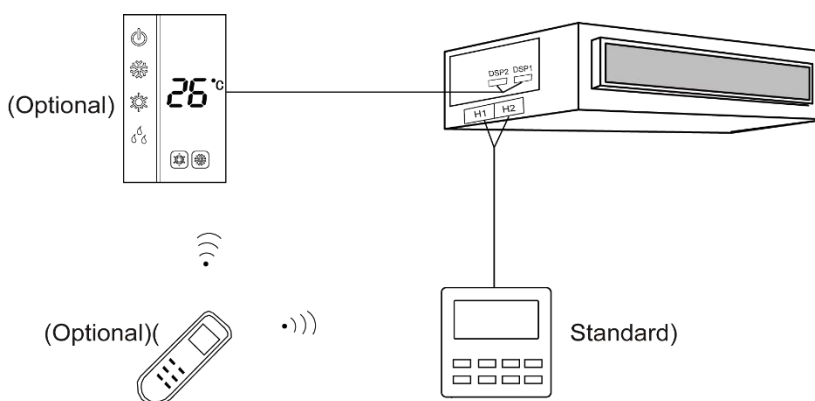

Fig31
- 7) Fig31 shows the installation of the remote controller.
- 8) The wired controller and the receiving light board can be installed at the same time. When operating through a remote controller, both the wired controller and the receiving light board can receive the signals, as shown in Fig31.